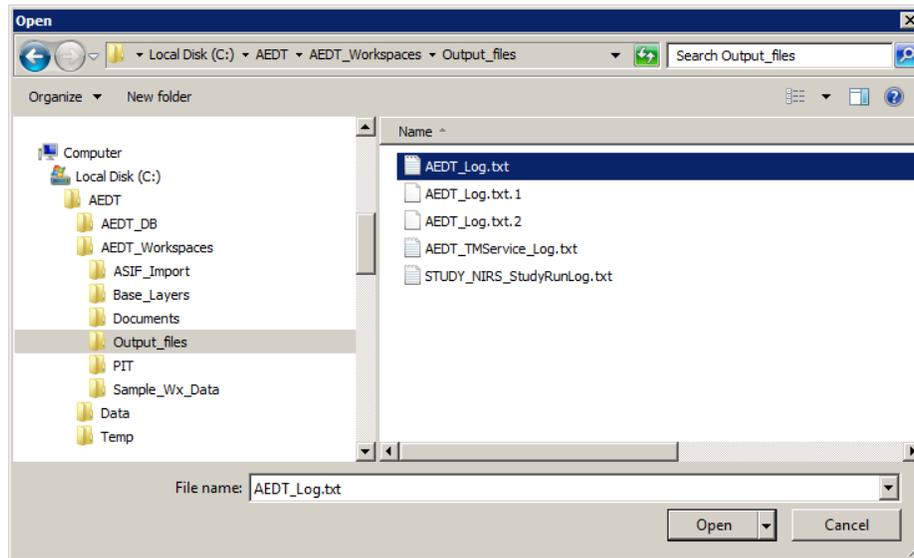

Figure 6-8 AEDT Log Files
5. Select the error file of interest and click the *Open* button (Figure 6-8).
AEDT2a divides the log files into 100 MB partitions in ascending numerical order. Errors occurring toward the end of the processing cycle will be located in the file without a number, named *AEDT\_Log.txt*; while errors occurring toward the start of the processing cycle will be located in the greatest numbered file, such as *AEDT\_Log.txt.10* in the sample log files shown in Figure 6-8. The number of log files is limited to 10.